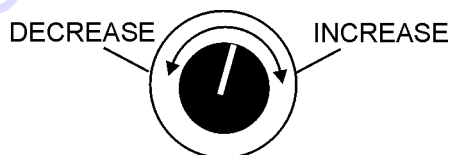

Figure 35. Voltage Adjust Control Knob
- If the voltage is not within the specified tolerance, use the voltage adjustment control knob (Figure 35) to increase or decrease the desired voltage.